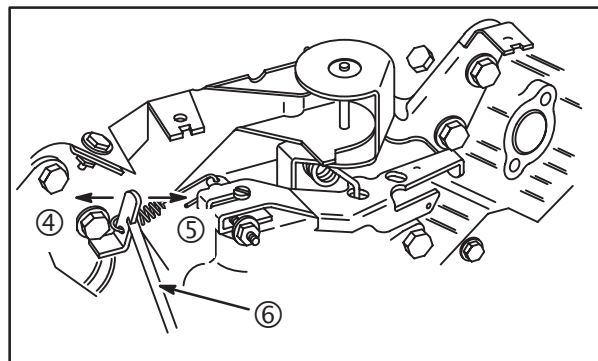

Fig. 21
9. If necessary, use Tang Bender #19352 (6), **Fig. 21**. Bend governed idle tang **LEFT** to **INCREASE** (4), right to **DECREASE** (5) engine speed to obtain RPM shown: